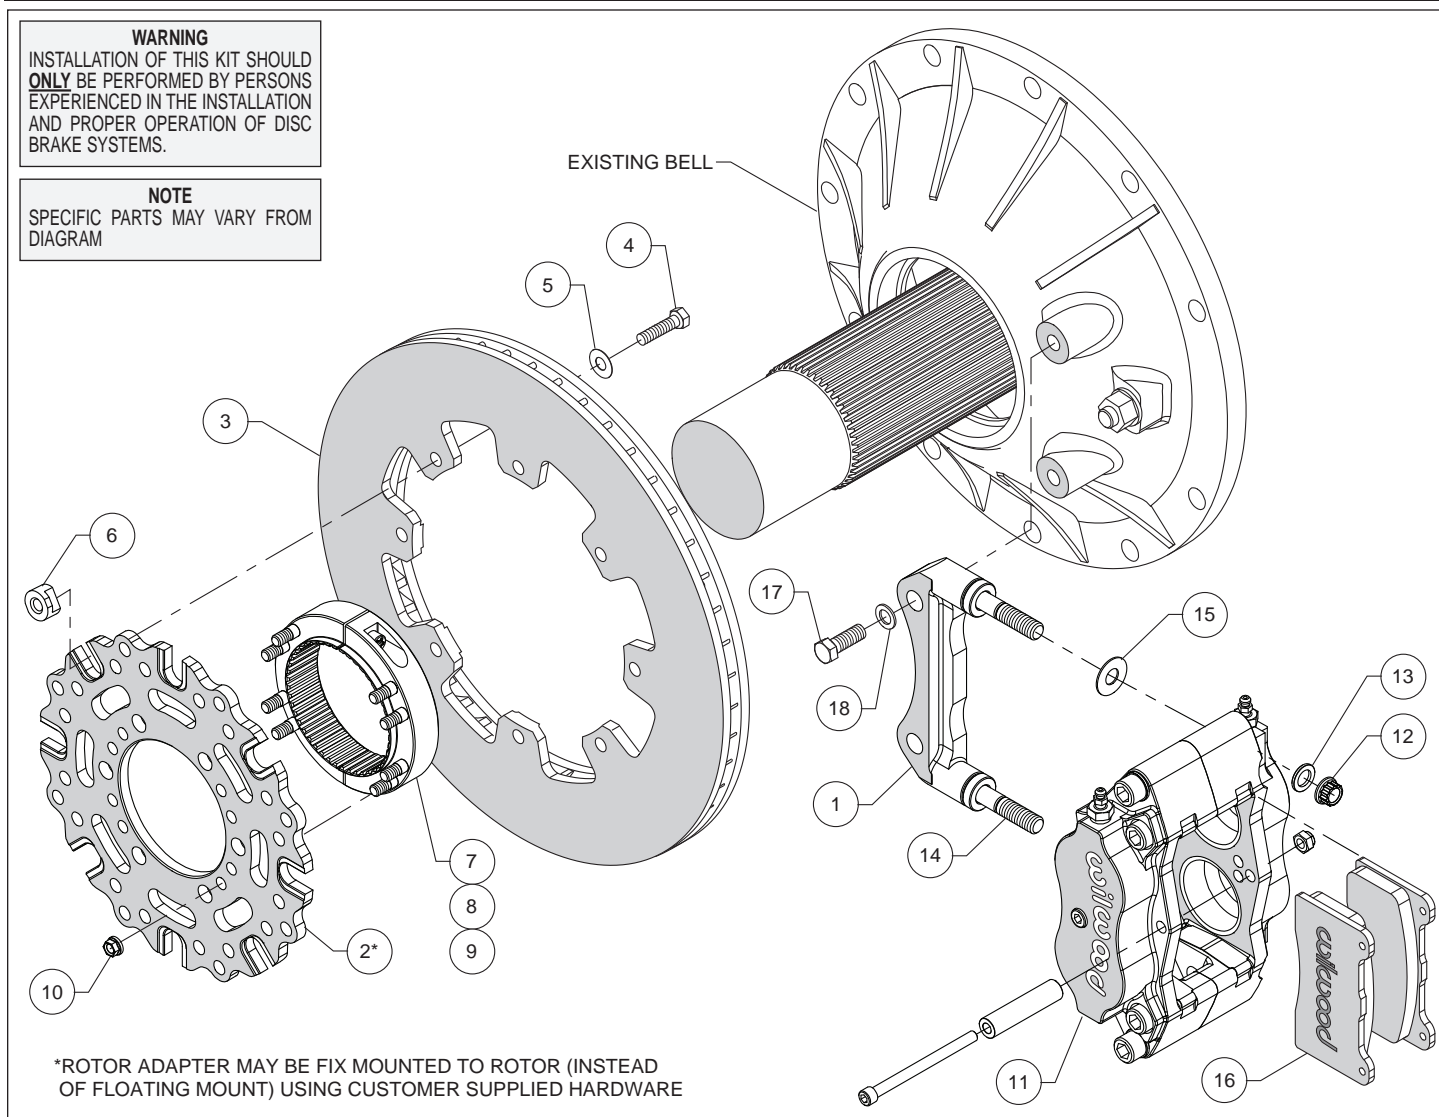

Figure 1. Typical Installation Configuration
- Orient the caliper mount bracket (1) as shown in Figure 1 and install using bolts (17) and washers (18). Temporarily tighten the mounting bolts. **NOTE:** The bracket must fit squarely against the mount bosses on the bell. Inspect for interference from casting irregularities, machining ridges, burrs, etc. Remove the bracket mounting bolts one at a time, apply red *Loctite*® 271 to the threads, and torque to 60 ft-lb.
- Orient the rotor adapter (2) and the rotor (3), as shown in Figure 1, and attach using bolts (4), washers (5), and t-nuts (6), Figure 1. Apply red *Loctite*® 271 to the bolt threads before installing. Finger tighten. After all t-nuts have been installed, torque bolts in an alternating sequence to 220 **in-lbs**. Please refer to Wilwood's data sheet DS-669 (available at www.wilwood.com/Pdf/DataSheets/ds669.pdf) for complete t-nut bolt kit installation instructions. **NOTE:** Rotor adapter may be fix mounted to rotor (instead of floating mount) using customer supplied hardware.
- Orient the axle clamp assembly (7, 8 and 9, pre-assembled) as shown in Figure 1 and install onto the rotor adapter (2) using nuts (10). Tighten nuts part way while still allowing clamp-to-rotor movement. The nuts will be torqued later, after aligning the rotor. **NOTE:** *The axle clamp should be positioned inside of the rotor as shown in Figure 1, not offset, or outside of the rotor adapter.*
- Lubricate the caliper mounting studs (14) with lightweight oil. Initially place one .030" thick shim (15) on each stud as shown in Figure 1. Mount the caliper (11) onto the bracket (1) using lock nuts (12) and washers (13), Figure 1. Temporarily tighten the lock nuts and view the rotor through the top opening of the caliper. The rotor should be centered in the caliper. If not, slide the rotor/adapter assembly on the axle until the rotor is centered in the caliper. Tighten the clamp bolts (9) first, locking the clamp to the axle. Torque nuts (10) to 140 in-lbs.
- Remove the caliper center bridge pad retainer bolt, nut, and tube from the caliper. Insert the brake pads (16) into the caliper, with the friction material facing the rotor. Check that the top of the brake pad is flush with the outside diameter of the rotor. If not, adjust by adding or subtracting shims (15) between the caliper and the bracket. After the caliper pad height is set, torque the caliper lock nuts (12) to 30 ft-lb. Secure the brake pads in place with the center bridge pad retainer tube, bolt, and locknut. The locknut should be snug without play in the bolt or tube. Be cautious not to over tighten.